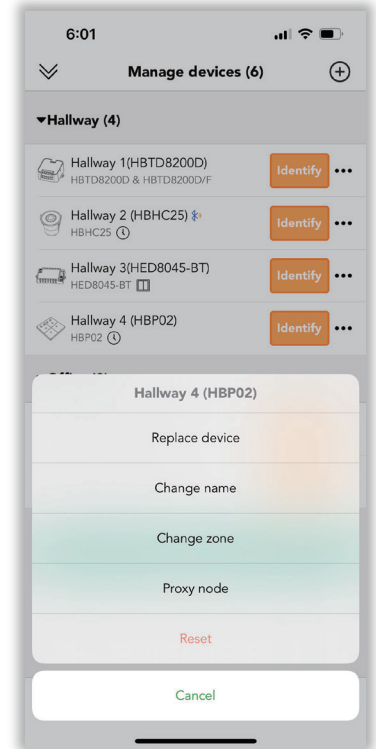

Figure 1.2 Reset-2
2. Click ... to reset, like "Hallway 2(HBHC25)" (see figure 1.2).